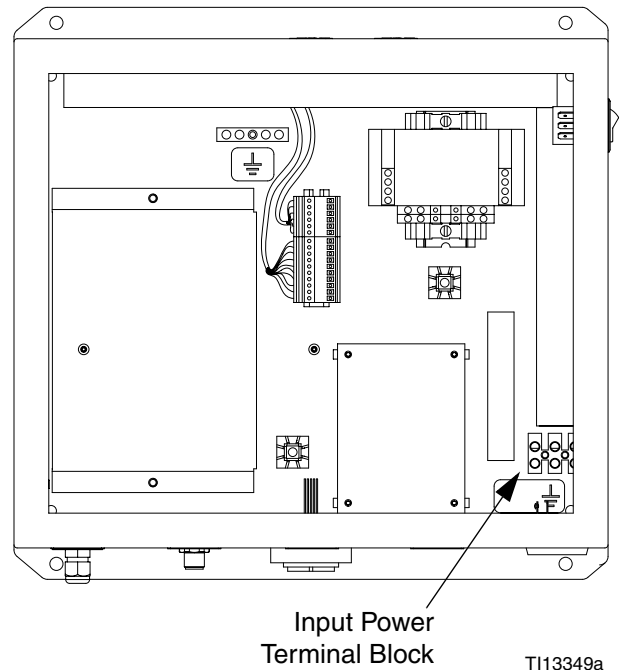

FIG. 9. Main Power Connection
2. See FIG. 9 and the **System Electrical Schematic** on page 30 for the L1, N, and ground wiring connections inside the EasyKey.